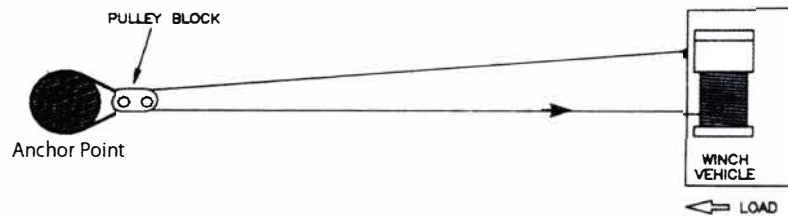

Figure 19
4. Figure 19 illustrates a method of rigging used to obtain a mechanical advantage. The use of a pulley block will almost double pulling line capacity.